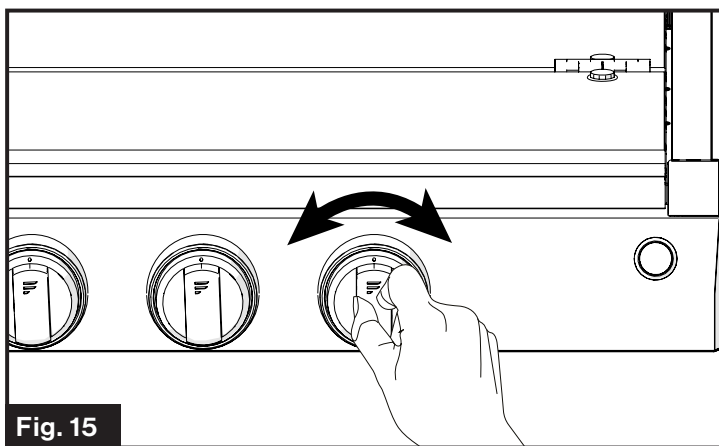

Fig. 15
4. Rotate the burner control knob to adjust the flame to desired level. (Fig. 15)